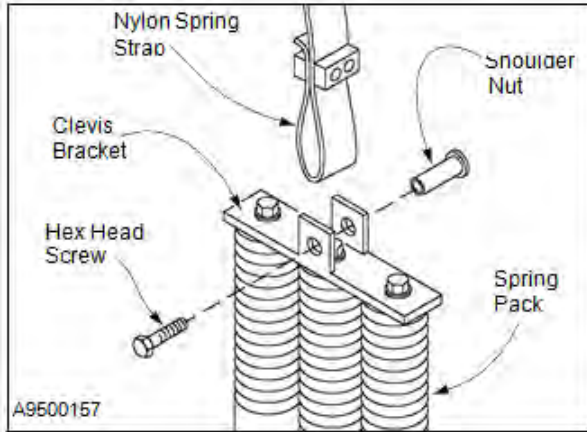

Figure 60
11. Attach the loop end of the new spring strap to the spring pack using the saved hardware. Make sure the strap is hanging straight and not twisted. (See Figure 60.)